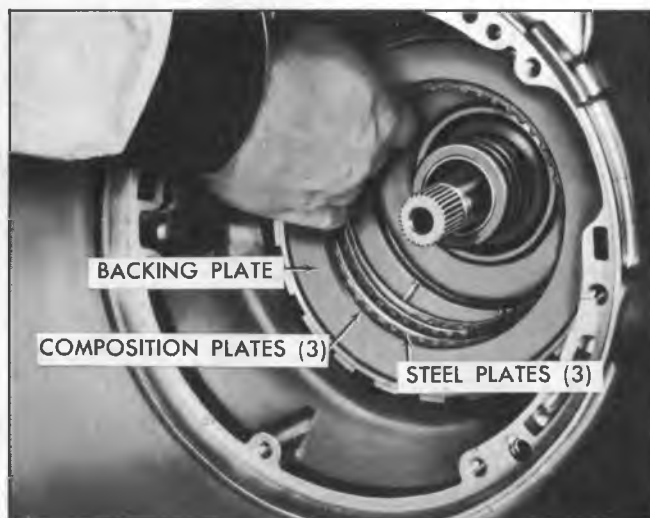

Fig. 132T—Installing Intermediate Backing Plate and Clutch
12. Oil and install three (3) steel and three (3) composition clutch plates. Start with the waved steel plate and alternate composition and steel clutch plates (fig. 132T).
13. Install intermediate clutch backing plate, ridge up (Fig. 132T).